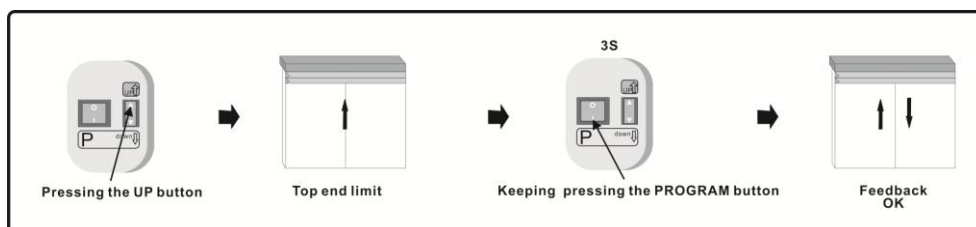

Fig.8
1.5 Move the shutter to the top end limit by pressing the UP button, Save the top end limit by keeping pressing the PROGRAM button 3s until the motor joggle twice (two times in both direction). Refer to Fig.8